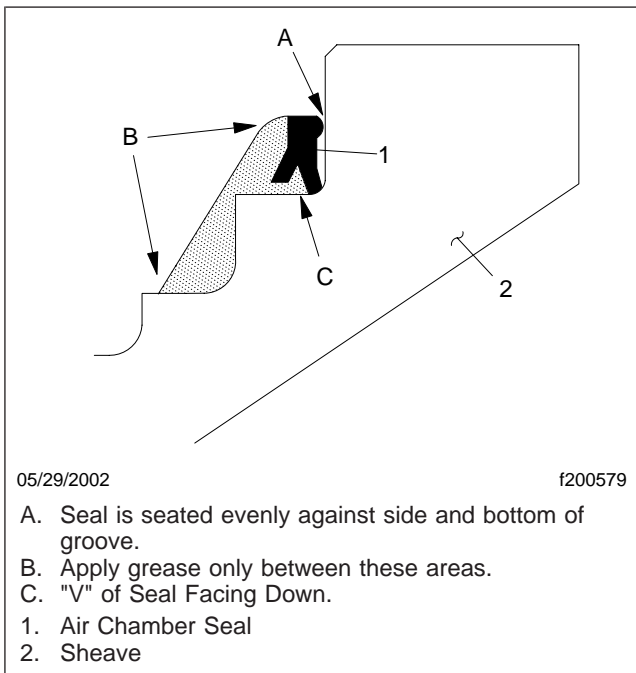

Fig. 9, Correct Installation of Air Chamber Seal (cross-section view)
- and bottom of the groove surfaces, and the "V" of the seal is facing down. See **Fig. 9**.